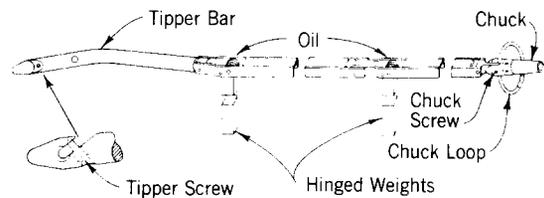

Fig. 4 — E Cable Leader
2.05 E Cable Leader: The E Cable Leader shown in Fig. 4 is designed for use with B and C Sheave Supports and consists of a tipper assembly, a pulling chuck, and eight hinged weights which normally hang vertically to resist cable and strand rotation. The weights are arranged to fold into the supporting framework when passing over a roller at a pole. The pulling chuck is for connection to the cable and strand and accommodates 6M strand only. The forward end of the tipper has a hook with a screw keeper for connection to the pulling line. Where there is no objection to spiraling of the cable, the chuck may be removed from the leader and the pulling line attached to the chuck screw.
4.02 Replacement parts available for the E Cable Leader shown in Fig. 4 are: